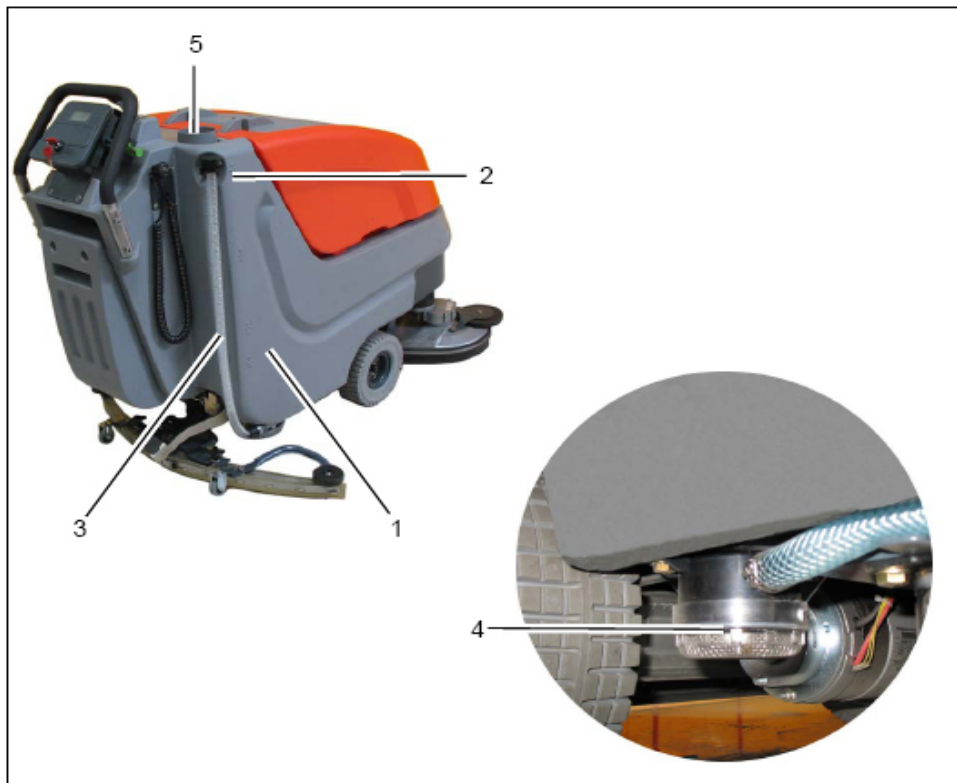

Fig.8
Fill Clean water tank (Fig. 8/1) before operation or as required. Park vehicle on level ground. Open tank lid (Fig. 8/5) and fill tank with Clean water up to the maximum (1/1 marker) (Fig. 8/2).
Alternatively, filling of the machine via quick coupling (Fig. 8/6) is available. Before doing so, connect the filling hose of the metering unit to the quick coupler.
Park vehicle such that the fill level hose (Fig. 8/3) is located above the drain aperture in the floor. Take fill level hose from holder and remove cap.
Check clean water filter (Fig. 8/4) at weekly intervals. Clean or replace if required.
1. To Empty clean water solution tank (Fig. 8/1) see paragraph 5.5.2.